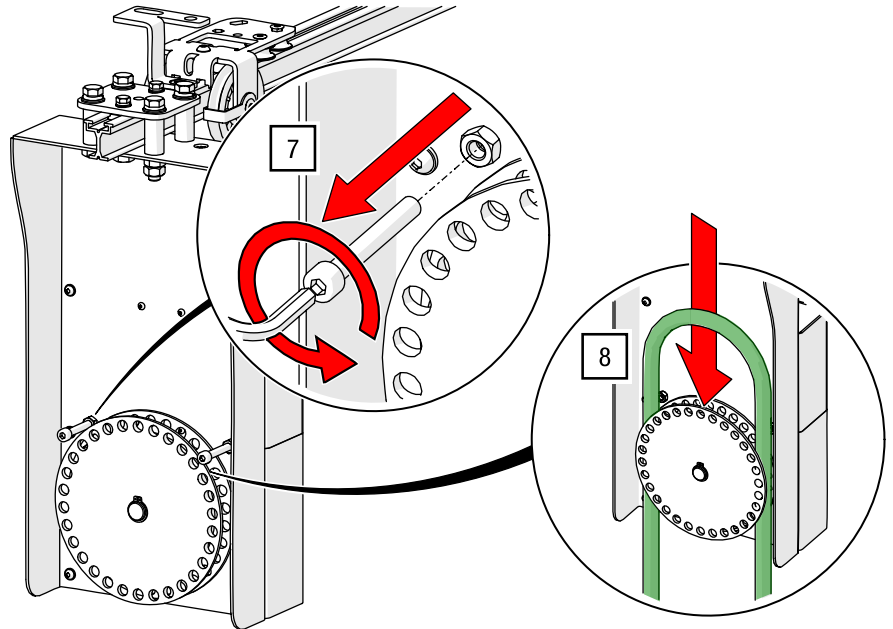

Fig. 120: Manual drive ROPE-DRIVE – Remove the rope lock and insert the hemp rope
7. On the ROPE-DRIVE, loosen the two cylinder head screws adjacent to the hemp rope drive wheel using an Allen key AF 6 (see Fig. 120).
8. Place the hemp rope around the pulley located in the higher part of the ROPE-DRIVE housing (see Fig. 120).